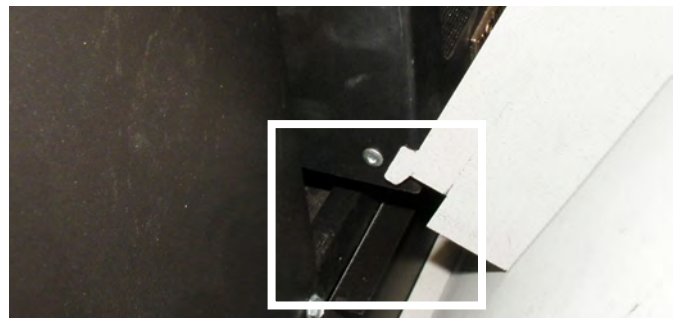

Figure 38 Sec.7 (Unpainted shown for illustration)
13). Install the Front trim. It has two hooks at the bottom which must be engaged on the bottom right and left of the Front Faceplate (see Figure 38 Sec.7). Magnets hold it at the top right and left.